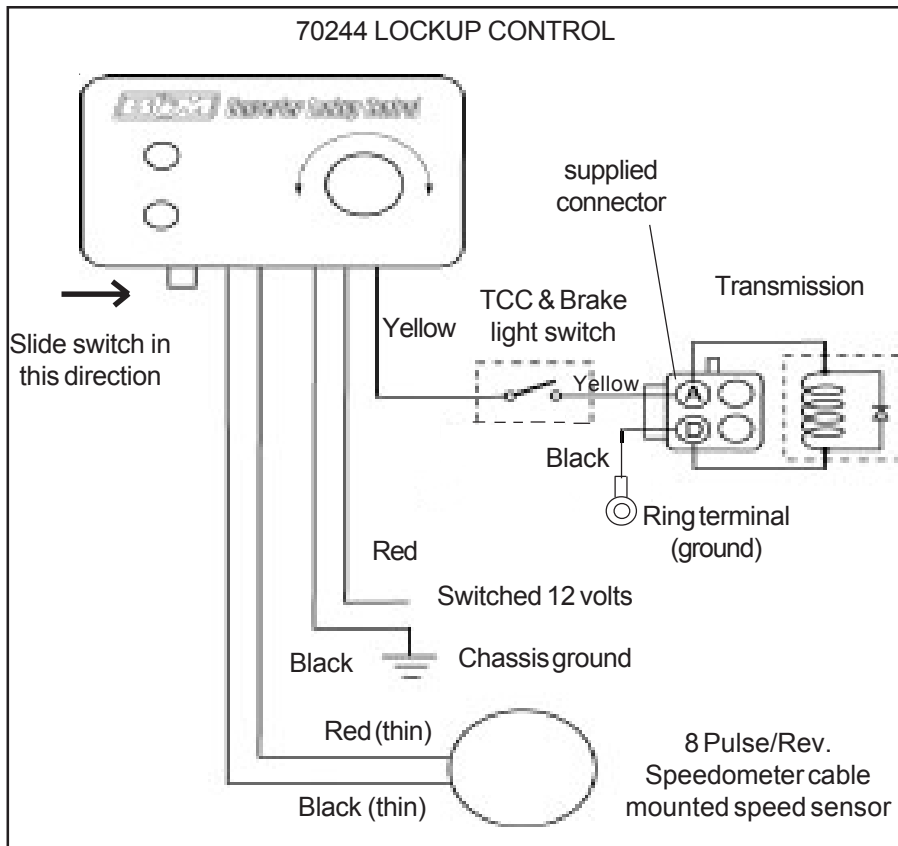

Figure 1
**STEP 6.** For most applications connect the **Yellow** wire as shown in **Figure 1** which shows the proper wiring hookup for the Converter Lock-Up Control. This diagram shows the stock TCC (Torque Converter Clutch) and brake light switch with the yellow wire feeding through the switch and continuing down to the 'A' terminal on the connector going into the transmission. For ease of convenience, the kit is supplied with the yellow wire and a black grounding wire attached to a connector that will plug directly into the transmission. This yellow wire can be cut and routed to the brake light switch and then continue to the Converter Lock Up Control. The short black wire can be attached to a transmission pan bolt to ground the circuit. In custom applications you can bypass the brake light switch, and you can plug the supplied transmission connector directly into the transmission and ground the short **Black** wire from pin **D**. We recommend that you wire the **Con-**